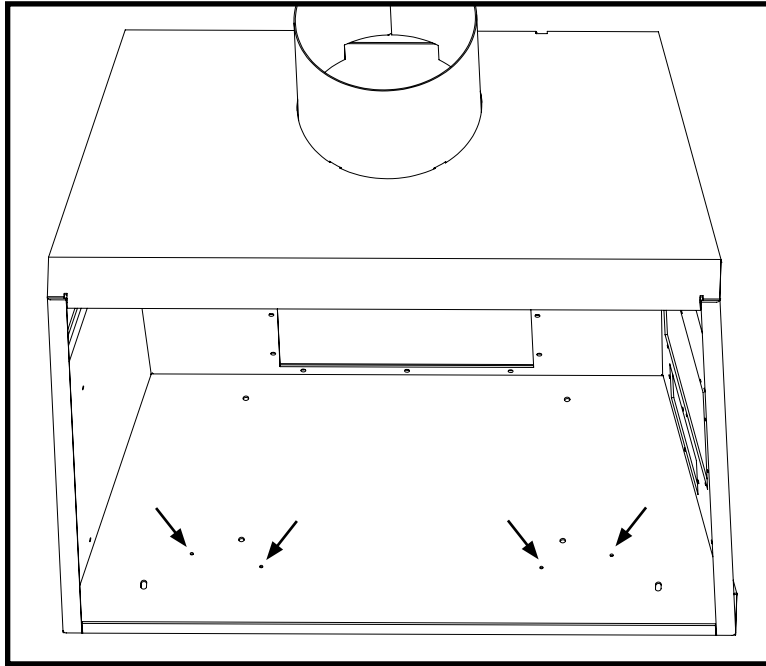

Figure 2: Firebox base.
1. Plug the 4 vacant holes in the bottom of the firebox with 1/2” screws, as they are not required to attach this style of burner (Figure 2).